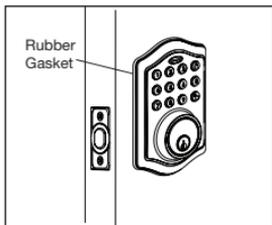

Figure 1a
- Check that the Rubber Gasket is properly seated on the Exterior Assembly (Figure 1a).
- Gently move the switch to "L" for Left Handed Door (Figure 1a).